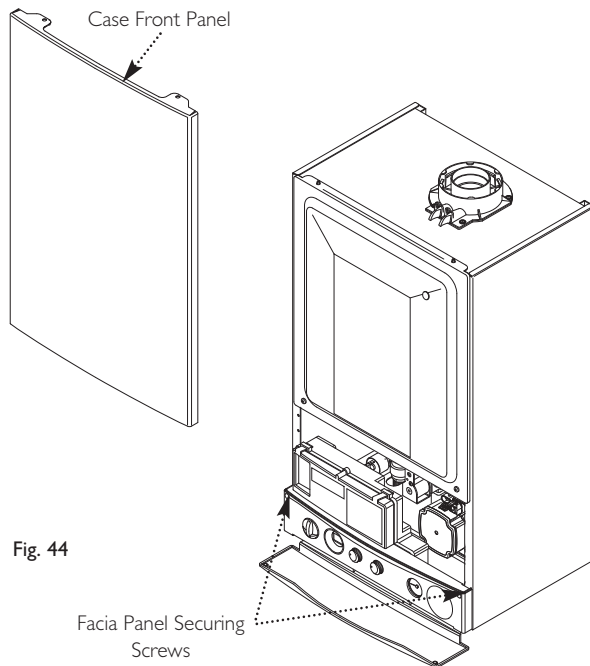

Fig. 44
3. Slacken the screws securing the fascia panel. Lift the outercase panel so that its securing tabs are clear of the fascia. Remove the panel, allowing the fascia to hinge down (Fig. 44).